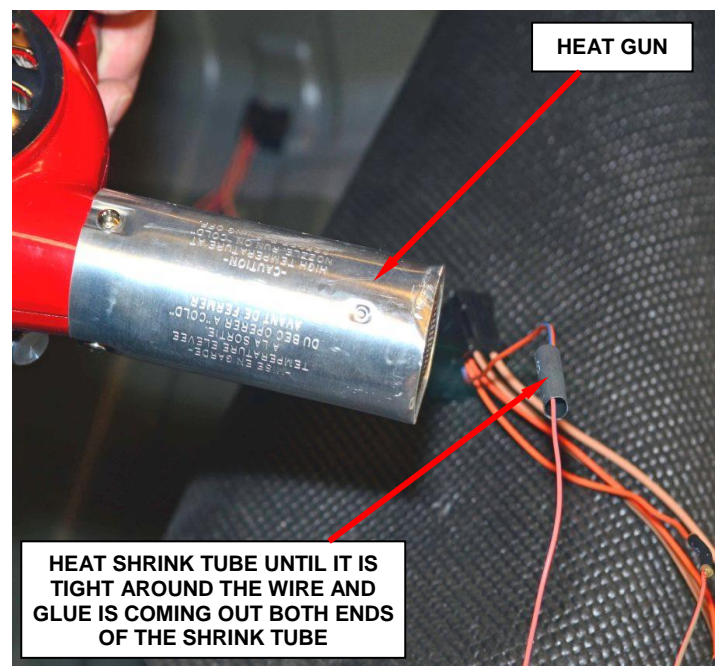

Figure 14 – Apply Heat to Shrink Tube
- f. Slide the shrink tube over the brass splice band and apply heat until glue comes out of both ends of the shrink tube (Figure 14).